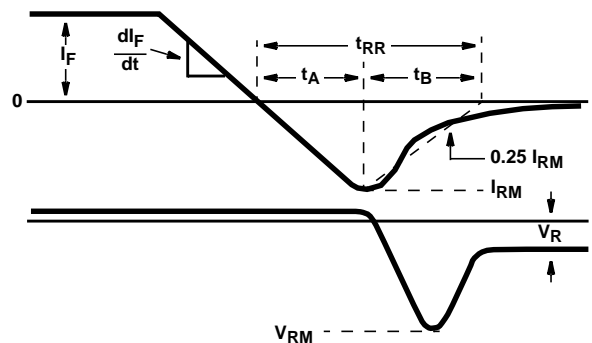

FIGURE 2. t_{RR} WAVEFORMS AND DEFINITIONS
- t_{RR} = Reverse recovery time (See Figure 2), summation of $t_A + t_B$.
- t_A = Time to reach peak reverse current at (See Figure 2).
- t_B = Time from peak I_{RM} to projected zero crossing of I_{RM} based on a straight line from peak I_{RM} through 25% of I_{RM} (See Figure 2).